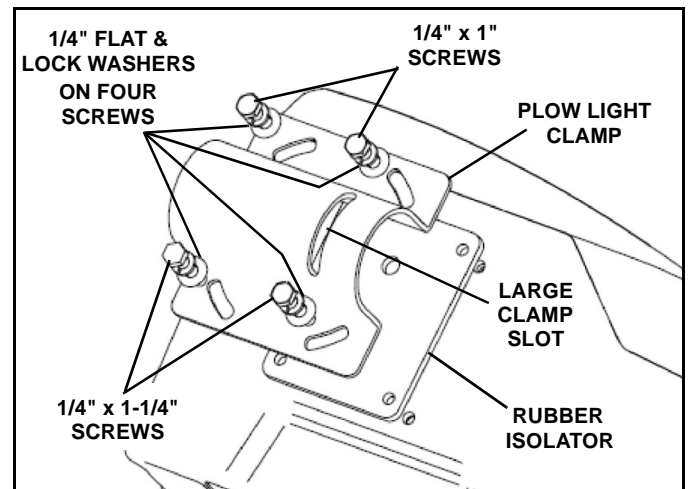

Figure 1-17
26. Position a plow light clamp and rubber isolator on the bottom of each plow light, aligning the corner slots in the clamp with the four holes in the isolator and light housings (See Figure 1-17).